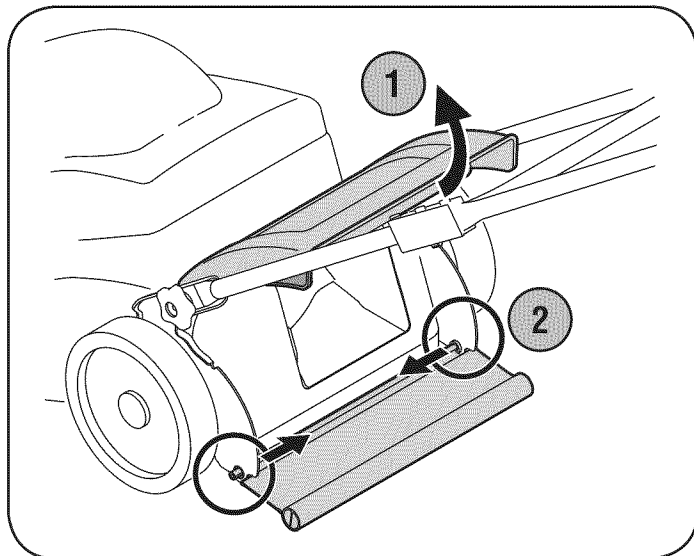

Figure 11
1. To remove trailing shield, lift rear door, and bend (bow) the trailing shield inward on each side to release tabs from the holes in the mower frame. See Figure 11.